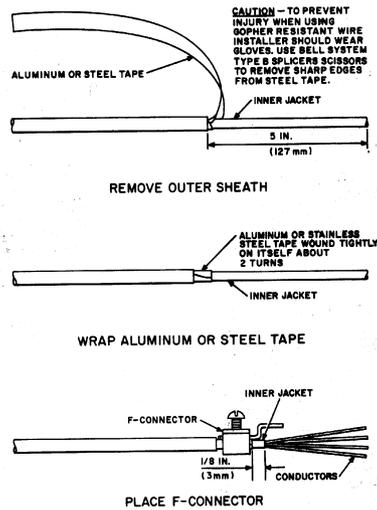
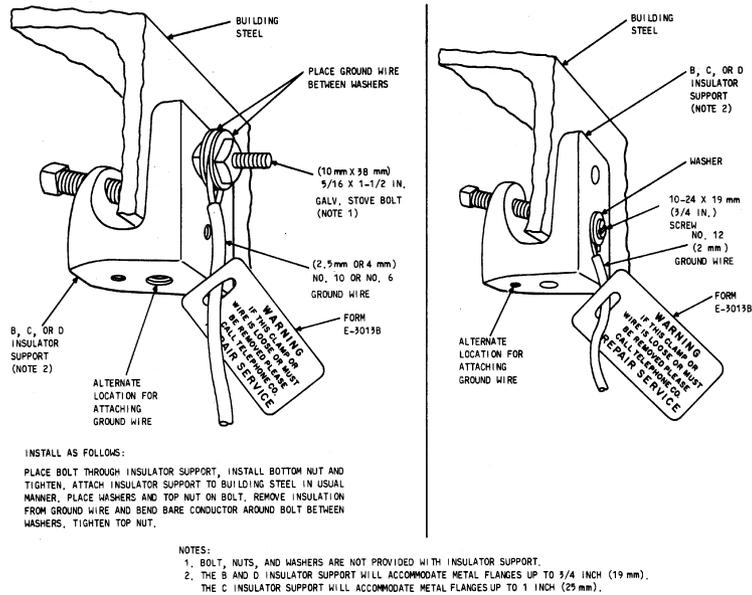

Fig. 25—Preparing B or C Service Wire for Bonding of Metal Shield
Fig. 56—Grounding to Building Steel
6.11 See Table E for ground clamp selection. See Table F and Fig. 25, 52, 53, 54, and 55 for wire connectors. Connections to building steel may be made by using a C or D insulator support (Fig. 56).